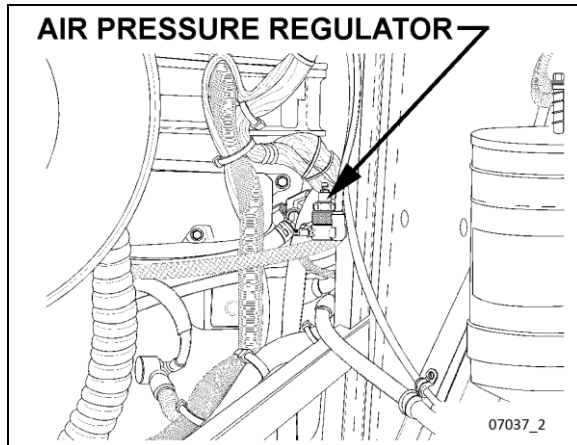

FIGURE 14: AIR PRESSURE REGULATOR (TYPICAL)
- Adjust the retarder pressure to 80 ± 3 psi with the air pressure regulator. For more information refer to Section 12, "BRAKE AND AIR SYSTEM", under heading "AIR PRESSURE REGULATOR". The air pressure regulator is located at back of engine compartment, on R.H. side (Figure 14) or in the R.H. side rear service compartment.